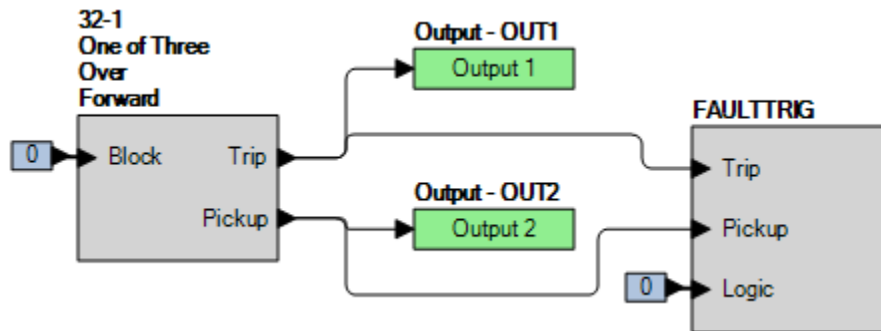

Figure 67-1. BESTlogicPlus Settings
Step 2: Use BESTCOMSPlus to configure the BESTlogicPlus Programmable Logic shown in Figure 67-1.